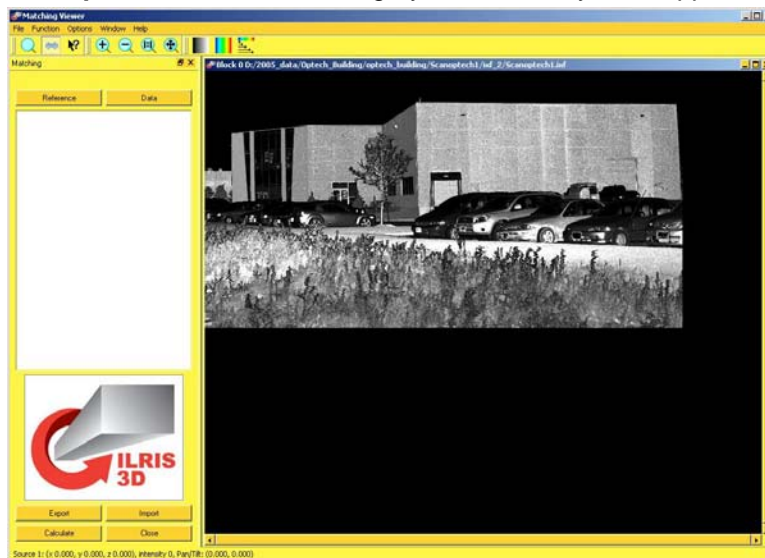

Figure 9: Intensity data opened in Matching Viewer
| Figure 9: Intensity data opened in Matching Viewer..... | 7 |
4. Browse to the folder where your scan data was saved in **Parsing the ILRIS Survey Data with Parser**, page 2, and **Open** the file. A 2D, 8-bit grayscale intensity scan appears (Figure 9).